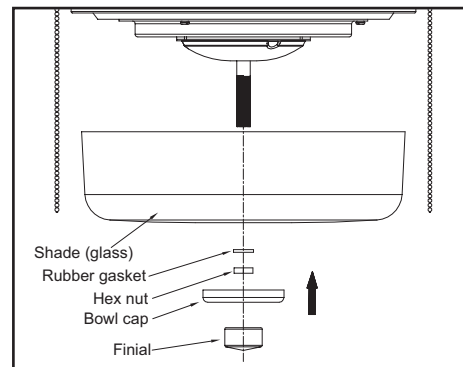

Figure 15
5. Remove the rubber gasket, hex nut, bowl cap and finial from the threaded nipple of the light kit fitter assembly. Position the glass shade over the threaded nipple. Re-install the rubber gasket, hex nut, bowl cap and finial to secure the glass shade. (Figure 15)